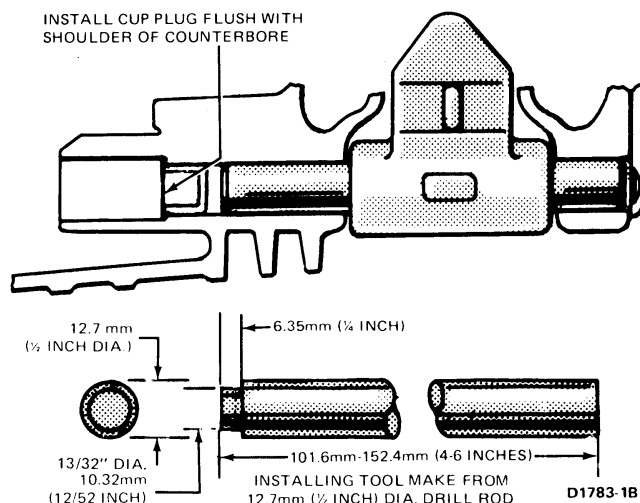

FIG. 30 Servo Apply Lever Installation
1. Working from inside of the transmission case, carefully drive on the servo apply lever shaft to remove the cup plug. The shaft (Fig. 30) can be withdrawn from the case by hand.
2. Using the fabricated tool shown in Fig. 30, drive the cup plug into position in the case. Be sure the plug is flush with the shoulder of the counterbore. The cup plug may be coated with Loctite, Part No. C3AZ-19554-A or equivalent, before installation.